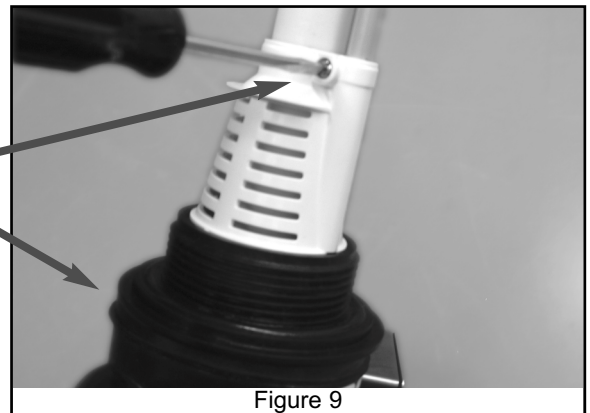

Figure 9
2. Insert the small grey rigid tube into the white disperser and up into the aeration head. Note: The tube must go into the disperser approximately 8-1/4", until it contacts the stop molded into the aeration head. Approximately 8-1/4" will remain sticking out of the white disperser. If more than this amount is sticking out of the disperser, the tube is not fully inserted into the aeration head. The tube can be marked with a pencil at 8-1/4" as a visual guide. See figure 9.
3. Locate the large tube provided and mark it 4 3/8" from the end. Insert it into the white disperser and aeration head until it contacts the stop molded into the aeration head. Approximately 4 3/8" of the tube will be in the white disperser when properly seated. Use the mark to verify it is inserted deep enough. See figure 9.